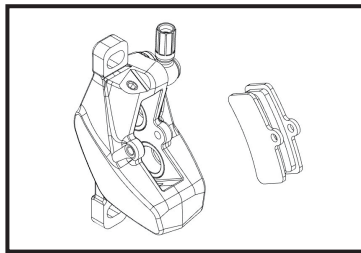

Fig 4
- Remove the brake pads to prevent contamination during bleeding. **(Fig 4)**
- Insert the appropriate (4-piston or 2-piston) bleed block and pad retaining pin. **(Fig 4)**